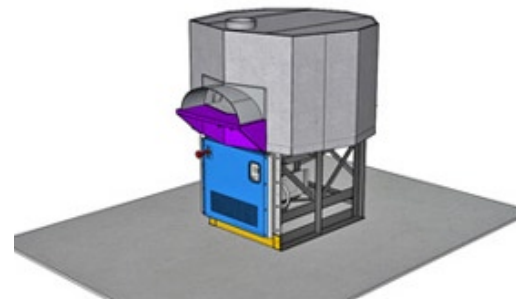

Figure 1.2
**Figure 1.2** Mount the Service Panel and Toe Kick according to the instructions in the installation manual. Please note the location of the Toe Kick, it ships unattached and is installed at a small offset from the Service Panel to maintain room for combustion air. See the **Airflow Detail** on **page 5**.